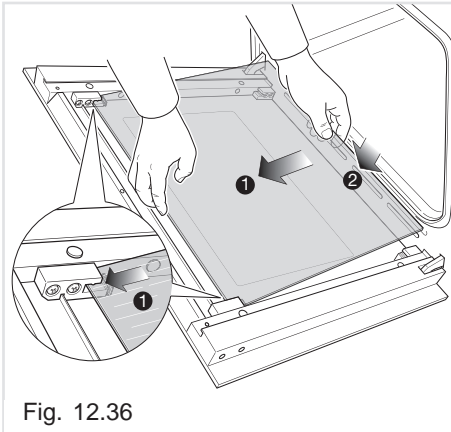
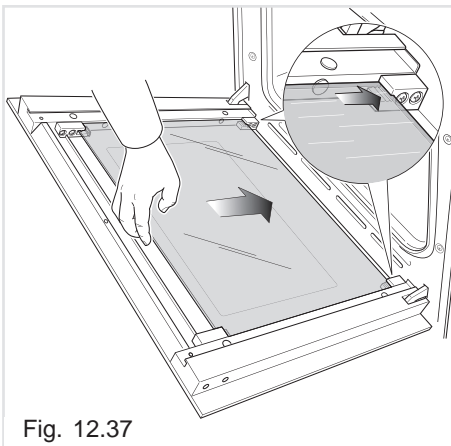

Fig. 12.36
Fig. 12.37
- Gently insert the top edge of the pane into the top clamps (arrow 1 in fig. 12.36), then lower the pane and insert the bottom edge into the bottom clamps (arrow 2 in fig. 12.36); and then slide the pane into position (fig. 12.37).